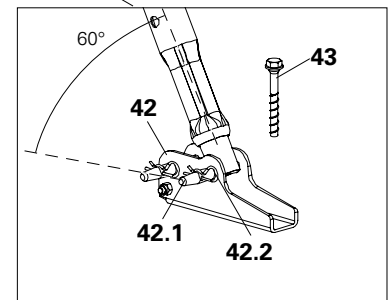

Fig. B3.01b
Inclination angle of the push-pull prop in relation to the ground approx. 60°. (Fig. B3.01b)
5. Fix push-pull prop (**40**) with bolts (**42.1**) and cotter pins (**42.2**) to the base plate (**42**). (Fig. B3.01b)